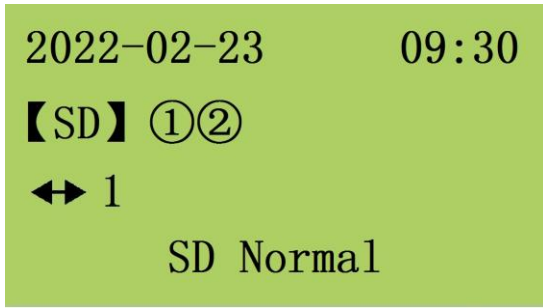
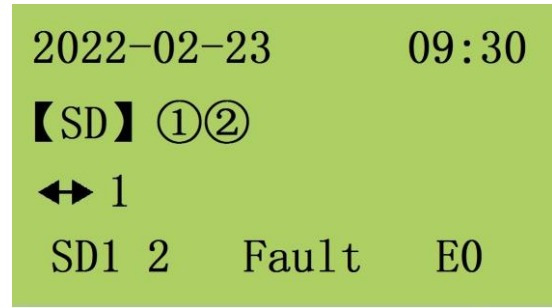

Figure 17a: Spark Detection Test Normal Page
Figure 17b: Spark Detection Test Fault Page
b. A simulated spark test device is included with the AMP-119KFM, version 21. If you press and hold the "reset" key for longer than three seconds while the system is in operation, the system will perform a spark self-test. You can enter the "automatic detection" under the "function parameters" page on the main page of the work (see Chapter 2.3 for details). When the spark detecting self-inspection is in a healthy state, the display is depicted in Figure 17a. The display is presented in Figure 17b if the spark detection is unsuccessful. To turn off the fault alarm, press the "alarm removal" button one again. Only SD1 and SD2 have the automated spark detection feature while the equipment is in the four-probe mode; SD3 and SD4 must be manually tested.